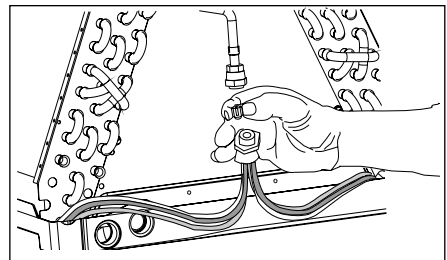

Figure 5. Restrictor Insertion in Distributor Body
6. Insert the new orifice in the distributor body **rounded end down** as shown in Figure 5.